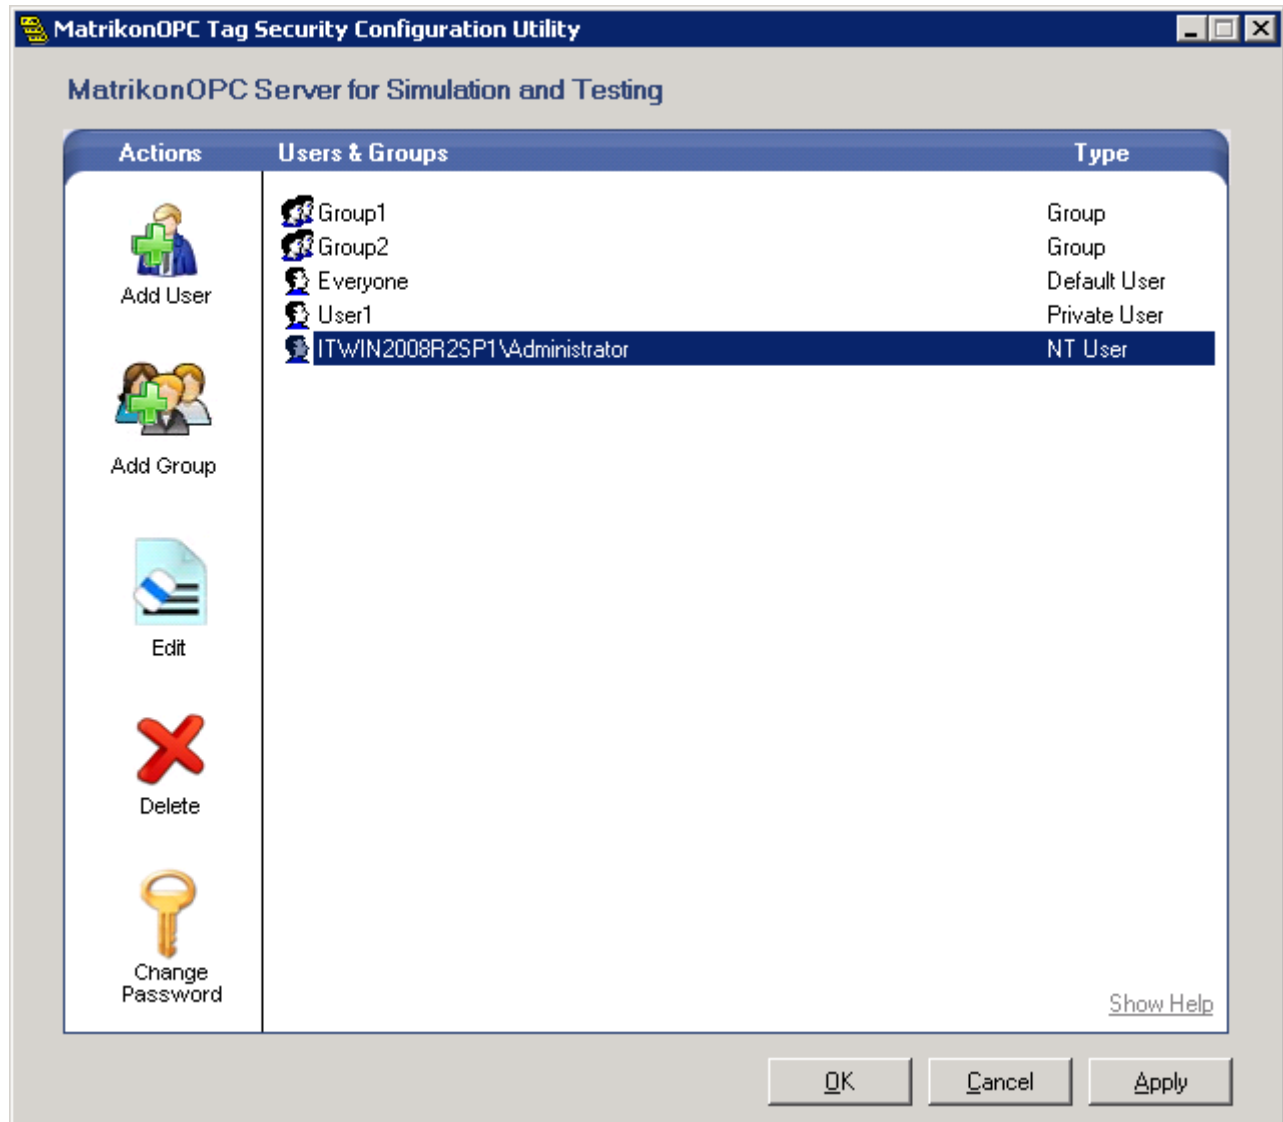

Figure 66 - Defined Users and Groups
- To add the selected user, click on the **OK** button. The user is then added to the list of users and/or groups currently defined (refer to Figure 66 for a sample list of defined users and groups).
7. Click **OK** to create the Private user. It will be added to the list of users and/or groups currently defined (refer to Figure 66 for a sample list of defined users and groups).
5. To add the selected group, click on the **OK** button. The group is then added to the list of users and/or groups currently defined (refer to Figure 66 for a sample list of defined users and groups).
5. Click on the **OK** button to create the group. It will be added to the list of users and/or groups currently defined (refer to Figure 66 for a sample list of defined users and groups).